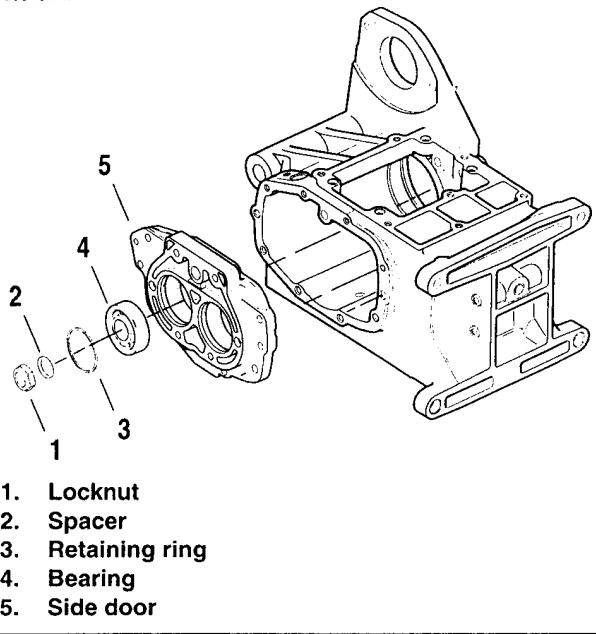

Figure 7-24. Side Door Bearings
9. See Figure 7-24. Remove locknuts (1) and spacers (2) from the shafts.
- See Figure 7-24. Inspect the bearings (4) in the side door (5). If bearings are pitted or grooved or feel rough when turned or have any end play, replace the bearings.
- See Figure 7-24. Remove the retaining rings (3) and press the bearings out of the side door.